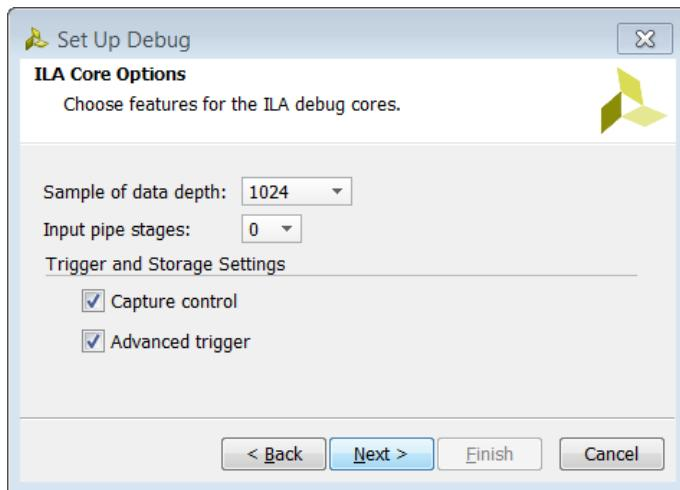

Figure 132: Enable Advanced Trigger and Capture Modes
12. The ILA (Integrated Logic Analyzer) Core Options dialog box opens, as shown in Figure 132.